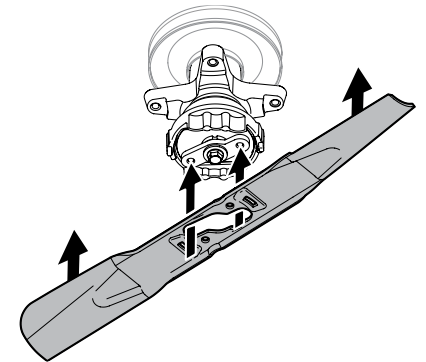

Figure 4-9
- Position the blade under the spindle assembly, and carefully align the large opening in the center of the blade over the rider blade retainer. See Figure 4-9.